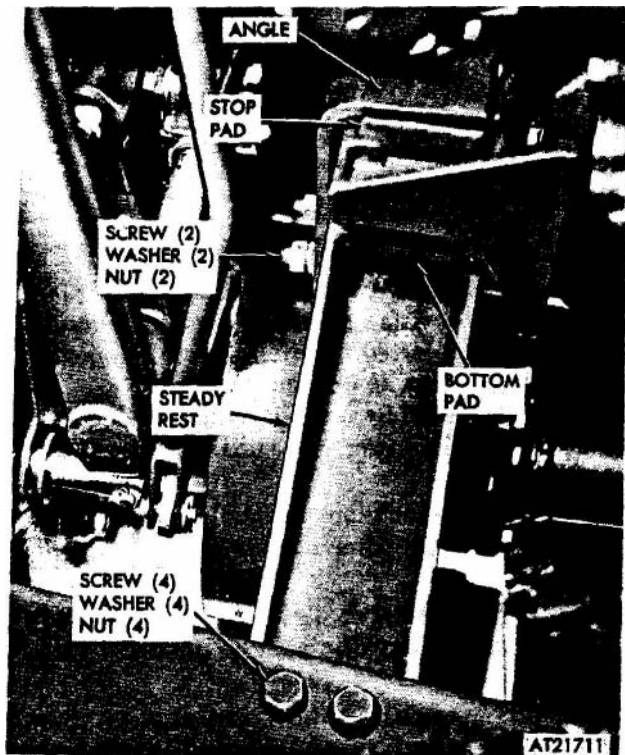
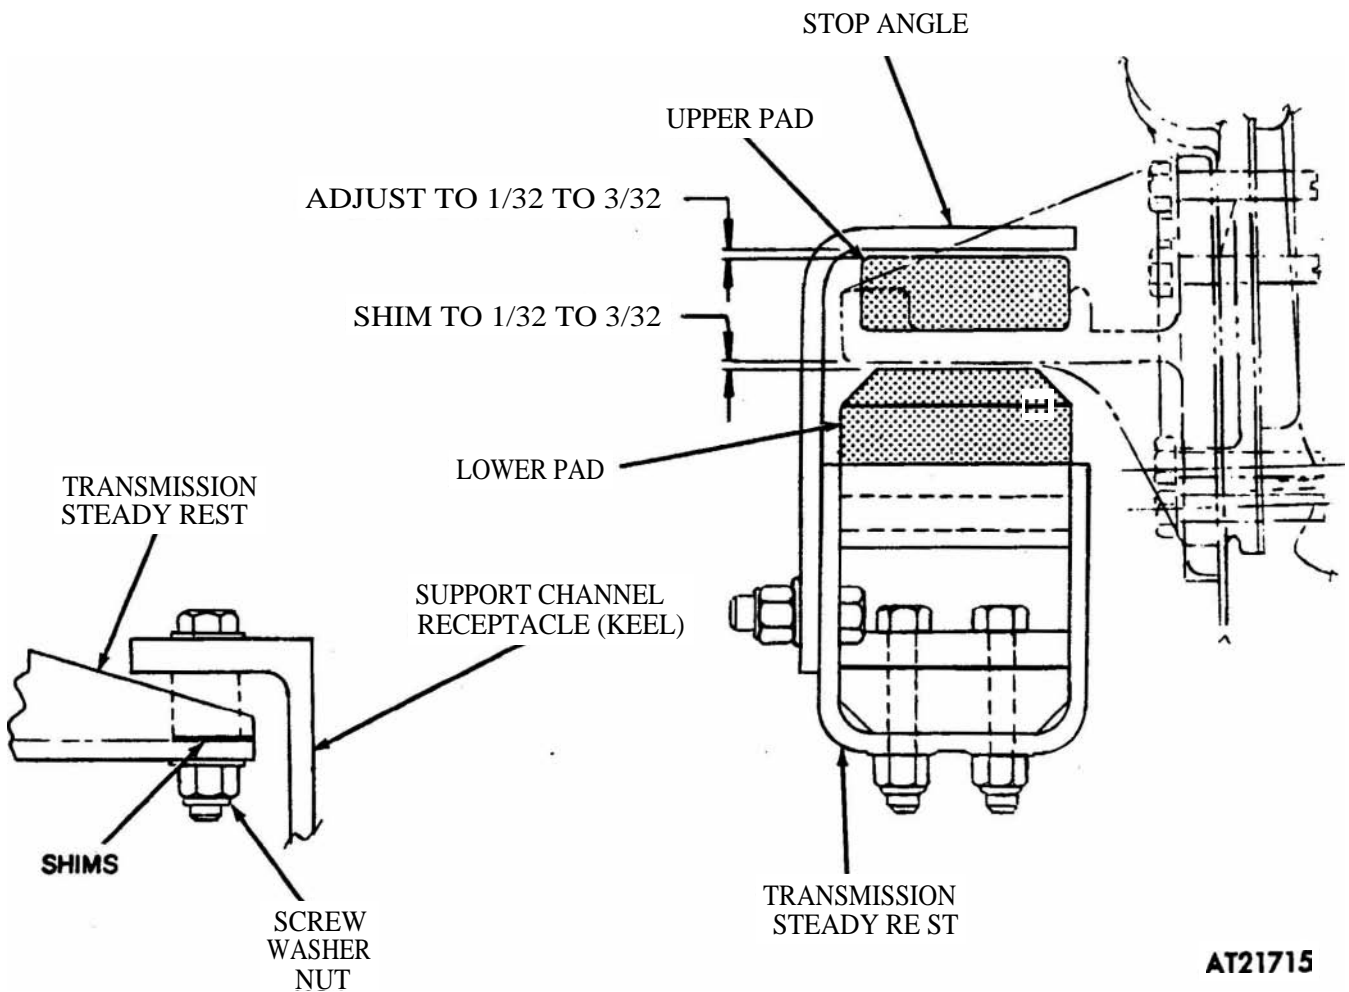

Figure 2-56. Transmission steady rest-removal and installation.
Figure 2-61. Transmission steady rest clearances.
(17) Remove nuts, washers, and screws securing steady rest support to tractor keel and remove steady rest support and shim(s). Measure and record shim(s) thickness to aid in installation (fig 2-56).
(9) Remove cap from fuel inlet line and plug from fuel pump inlet. Connect fuel inlet line.
(10) Position stop angle to support assembly and secure with two screws, washers, and nuts (fig 2-56).
(11) Insert top pad in transmission steady rest and bottom pad in channel receptacle of support.
(12) Insert four cap screws with washers in support mounting holes of left and right hand tractor keels.
(13) Position shim to top of each channel support and work support into position on mounting screws. Secure support assembly to tractor keels with four washers and nuts.
(14) Check clearance between pad in support channel receptacle and bottom of transmission steady rest. Clearance should be $1/16$ inch. If more than $3/32$ inch is measured at this point, remove the four mounting screws and remove shims as required. Minimum clearance is $1/32$ inch, maximum clearance is $3/32$ inch and desired clearance is $1/16$ inch (fig 2-61).
(15) Check clearance between transmission steady rest pad and bottom of support angle. Clearance should be 1 / 16 inch. Correct clearance may be obtained by loosening two screws securing angle to support and moving angle up or down. When 1 / 16 inch clearance is attained, secure cap screws (fig 2-61).